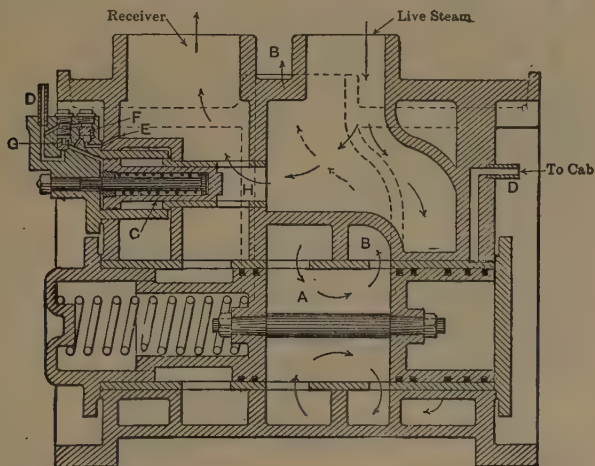
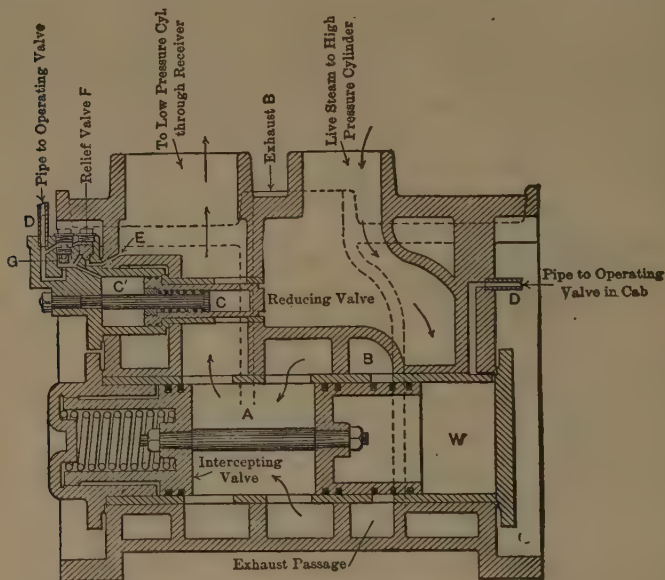
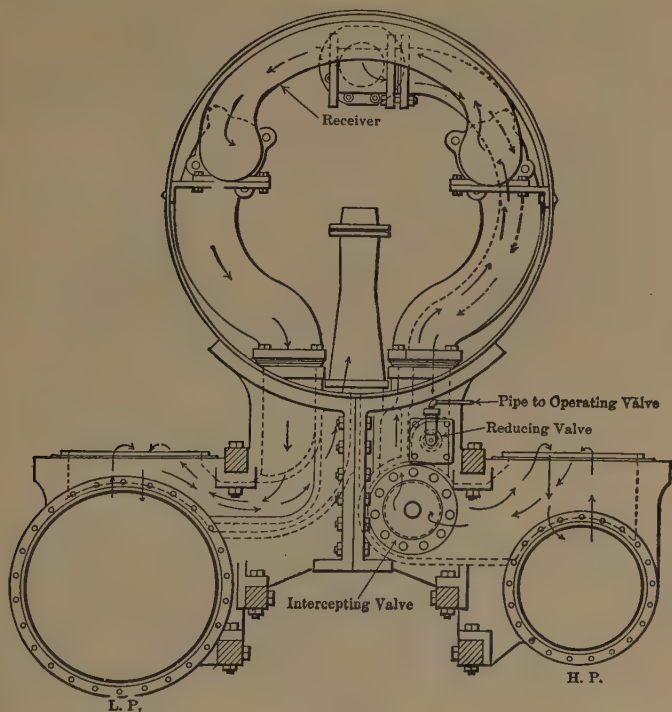

Fig. 340. Intercepting Valve in Simple Position.
Fig. 341. Intercepting Valve in Compound Position.
Fig. 342. Baldwin Two-cylinder Compound.
A. (1) Whenever the pressure in the receiver is sufficient to overcome that of the live steam in the auxiliary regulating valve; (2) even when the steam is cut off, as in the case of a locomotive on a down grade, should there be sufficient exhaust from the high-pressure cylinder to cause the requisite pressure in the receiver.
A. Referring to Figs. 340 and 341, A is the intercepting valve, which consists of two pistons connected by a distance
Fig. 340 shows the positions of the two valves for non-compound, Fig. 341 for compound running. Fig. 342 shows the receiver and the steam pipe in the front end; the live and exhaust steam courses for compound running being shown by arrows.